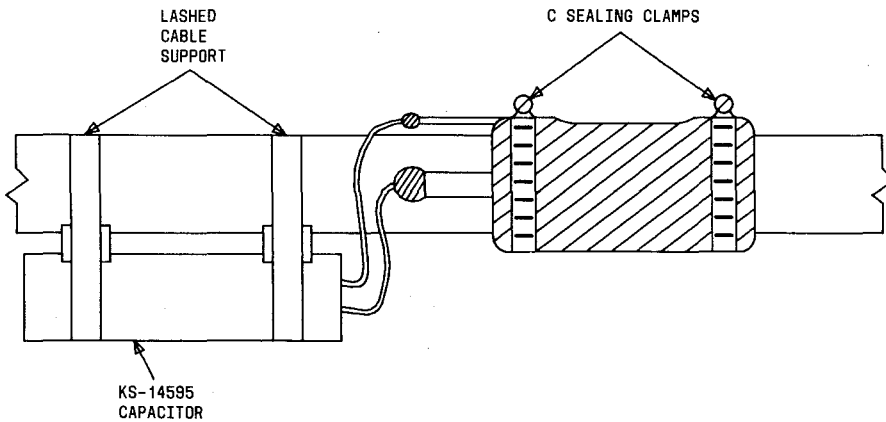

Fig. 14—Completed Installation
4.13 A typical completed installation of a KS-14595-type capacitor can be mounted on the si⁺ cable is shown in Fig. 14.